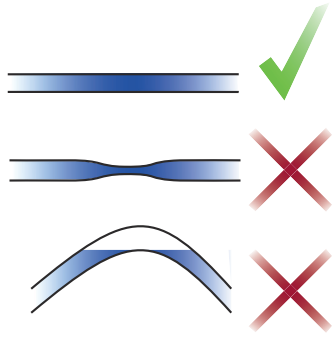

Fig. 4 Unrestricted pipework
- Unrestrictive pipework, 22 mm. See fig. 4.
- Provision to prevent air locks. See fig. 4.